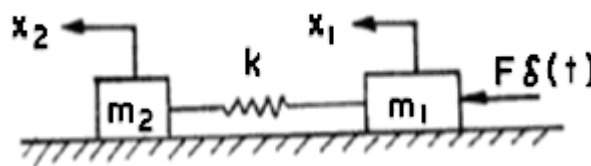

Figure 10:
5. Develop the equation of vibration and determine the natural frequency for the system shown in figure 10. [16]